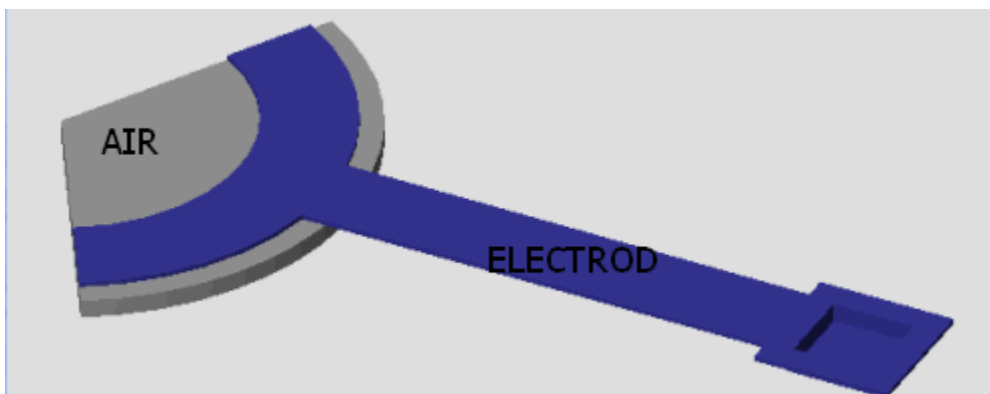

Figure 101: Volume Components
- Volume Components (Figure 101).